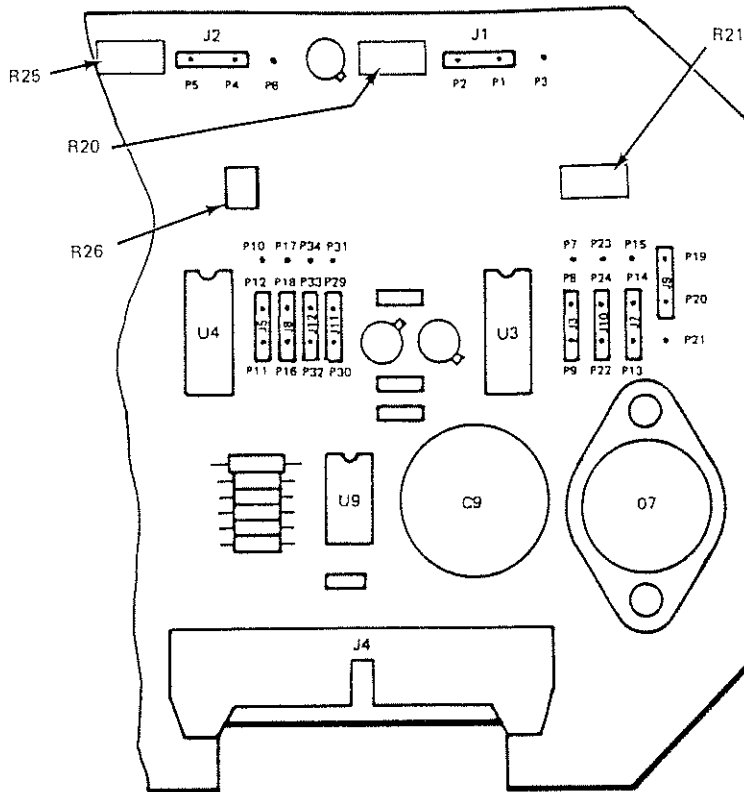

Figure 16. Power Supply and Output PWA Output Jumper and Position Locations
- Output 4 to 20 mA - Adjust R20 on power supply board until a reading of 1.00 V dc is achieved across a 250  $\Omega$  load (See Figure 16).
- 0 to 10 V dc Isolated - Adjust R21 on power supply board until a reading of 10.00 V dc is achieved (See Figure 16).
- 0 to 20 or 4 to 20 mA - Adjust R21 on power supply board until a reading of 5.00 V dc is achieved across a 250  $\Omega$  load (See Figure 16).
- c. Output 4 to 20 mA - Adjust R25 on power supply board until a reading of 1.00 V dc is achieved across a 250 Ω load (See Figure 16).
- b. Output 0 to 10 V dc Isolated - Adjust R26 on power supply board until a reading of 10.00 V dc is achieved (see Figure 16).
- c. Output 0 to 20 or 4 to 20 mA - Adjust R26 on power supply board until a reading of 5.00 V dc is achieved across a 250 Ω load (see Figure 16).